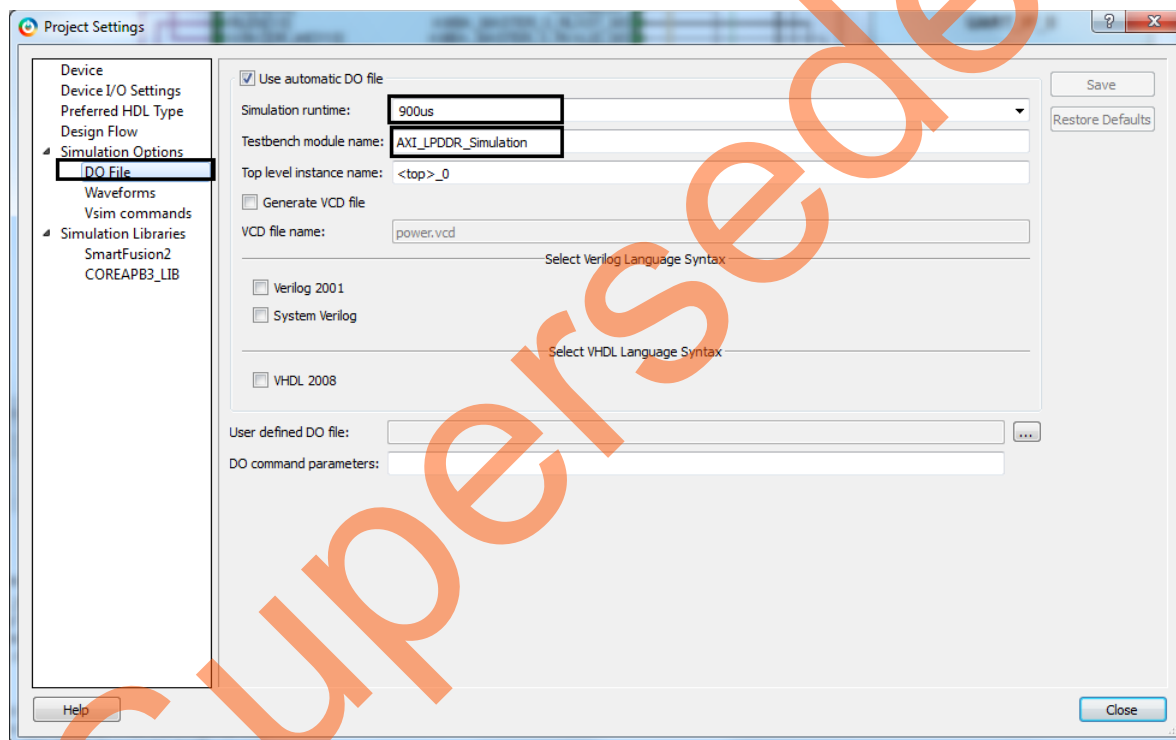

Figure 7 • DO File Settings
4. Ensure that the **DO File** tab has the configuration as shown in Figure 7.